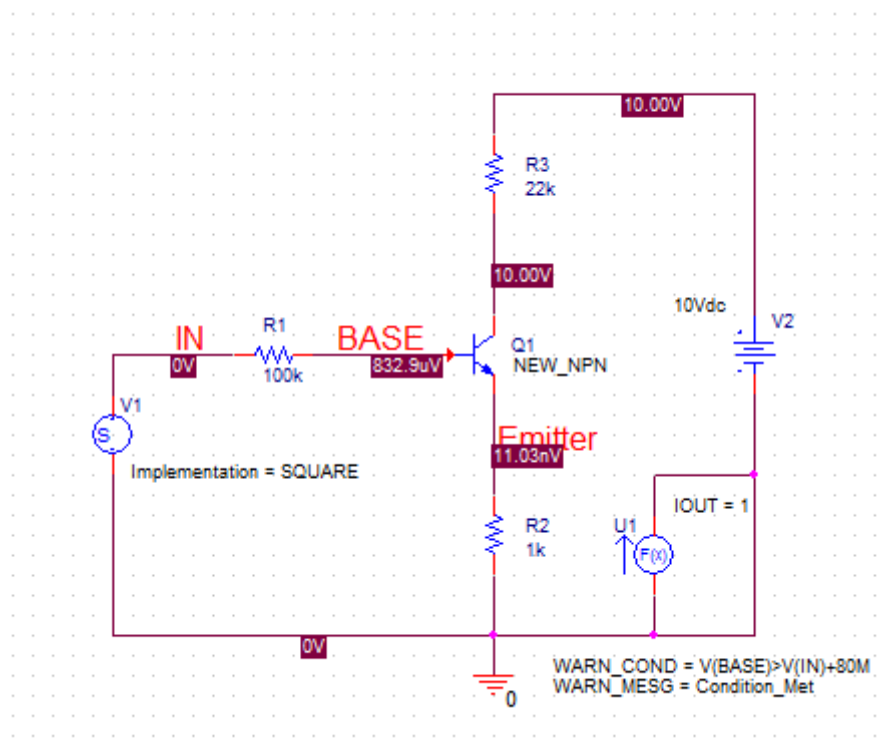

Figure 2-48: Bias Point display with Bias Voltage enabled
77. Cycle through the bias display buttons on the analog toolbar to view the bias data on the Capture canvas, as shown in Figure 2-48.